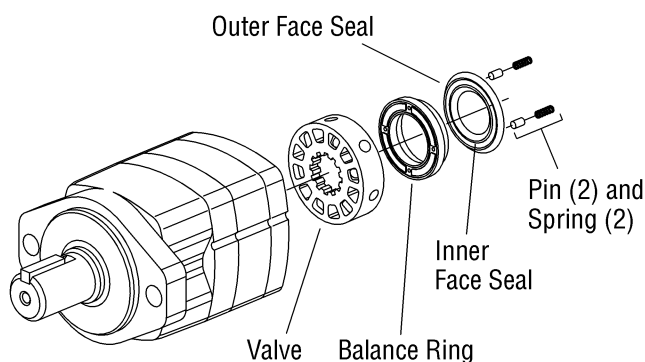

Figure 5
**6** Remove 2 pins and 2 springs from balance ring assembly, see Figure 5.